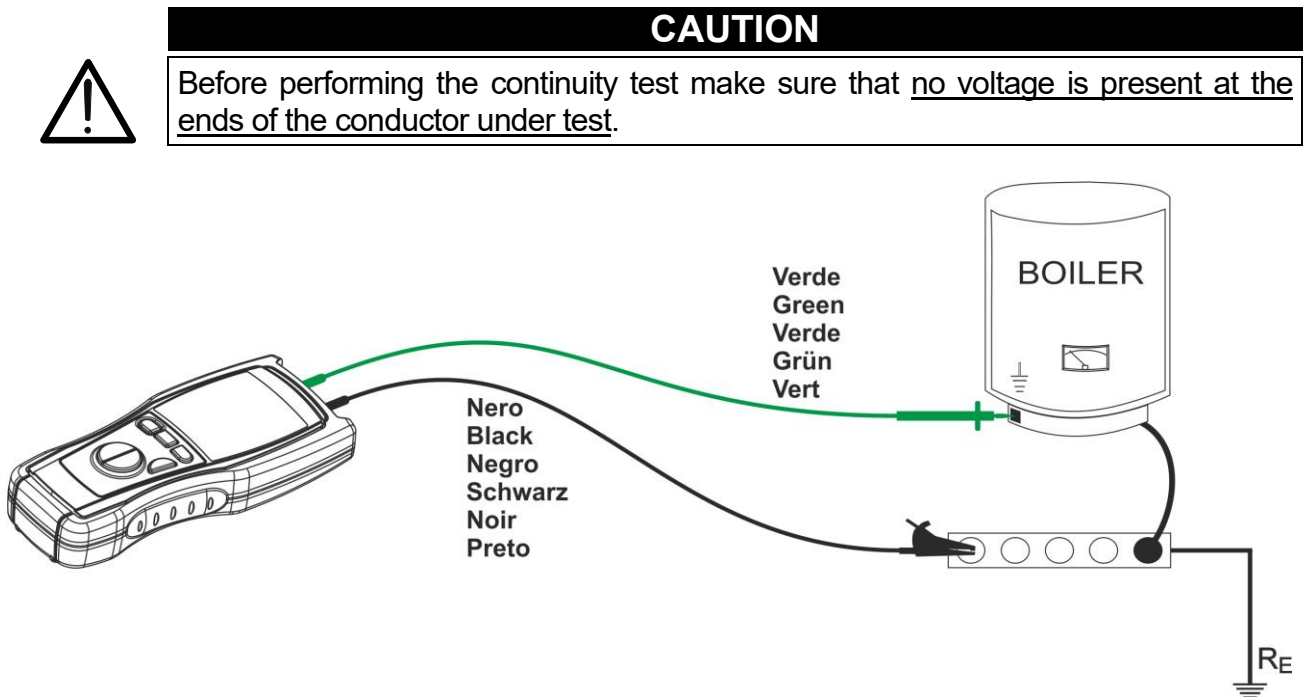

Fig. 9: Connection of the instrument's terminals during test
7. Connect the instrument's terminals to the ends of the conductor on which the continuity test must be performed (see Fig. 9)